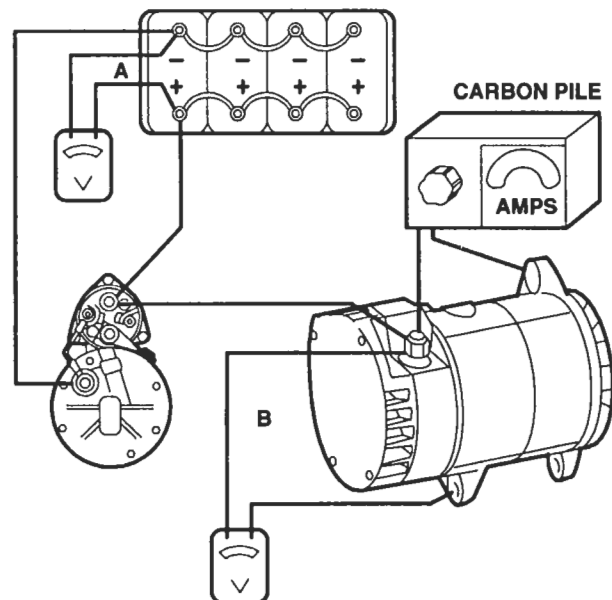

Figure 2. Charging Circuit Voltage Drop Test
11. With the engine not running, connect a carbon pile to the alternator output terminal and the alternator housing as shown in Figure 2.
12. Connect a voltmeter across one of the batteries, red lead to positive and black lead to negative as shown in A in Figure 2.
15. Move the the voltmeter to the alternator. Connect the red voltmeter lead to the alternator output terminal and the black voltmeter lead to the alternator housing as shown in B in Figure 2.